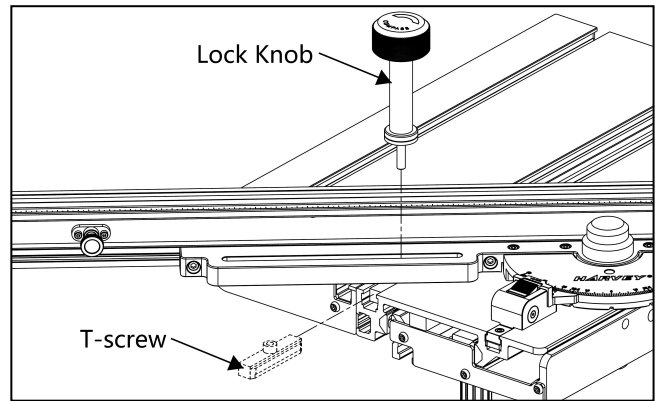

Fig. 15
11. Pivot the crosscut fence counterclockwise until the left end of the long slot on the crosscut fence is away off the sliding table. Remove the T-screw from the crosscut fence Lock Knob and insert the T-screw up through the slot on the fence as shown in **Fig. 15**. Pivot the fence clockwise and slide the T-screw into the T-slot in the left side of the sliding table top and screw in the crosscut fence Lock Knob. Do not tighten the Lock Knob at this time.